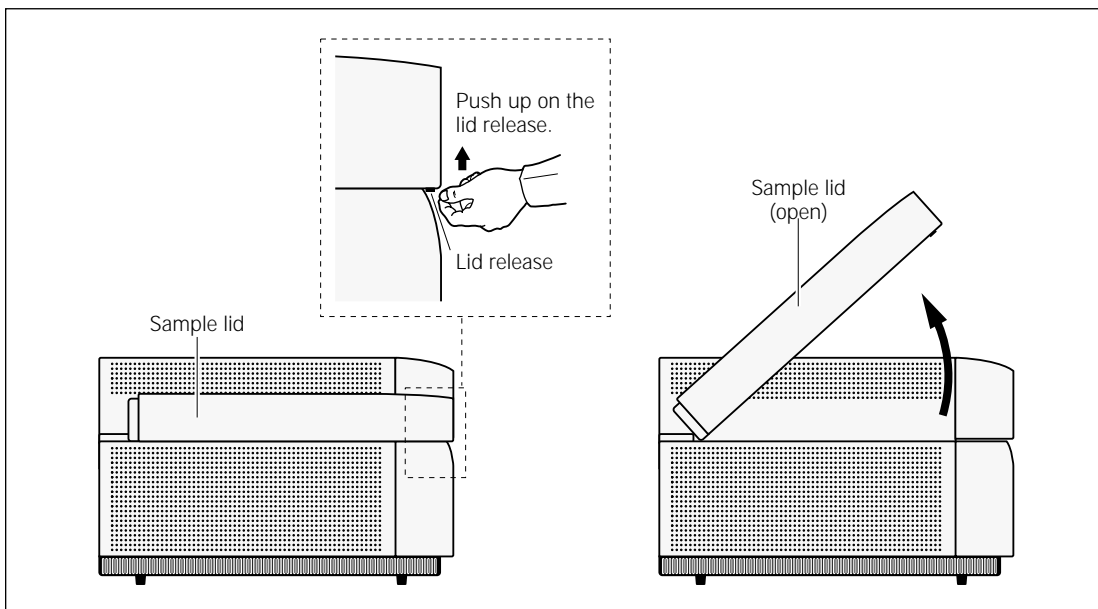

Figure 8-1. Opening the sample lid.
1. Push up on the lid release under the center front of the sample lid until the lid opens (figure 8-1).
1. If the sample lid is not already open, push up on the lid release under the center front of the lid until the lid opens (figure 8-1).
1. If the Typhoon lid is not already open, push up on the lid release under the center front of the lid until the lid opens (figure 8-1).